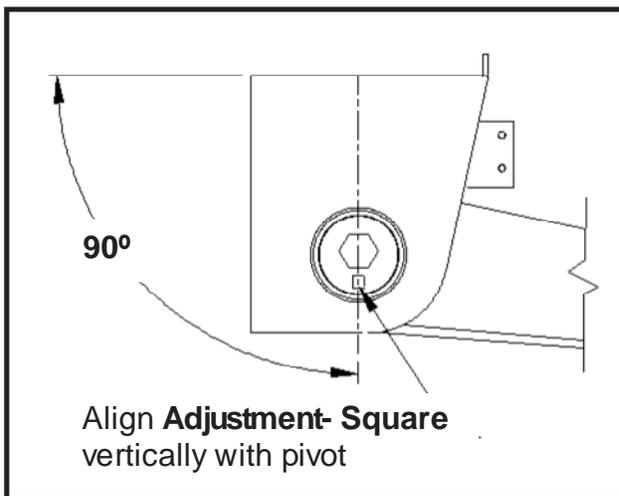

Figure 24
3. Start out with the Adjustment-Square vertically aligned with pivot as shown in **Figure 24**.